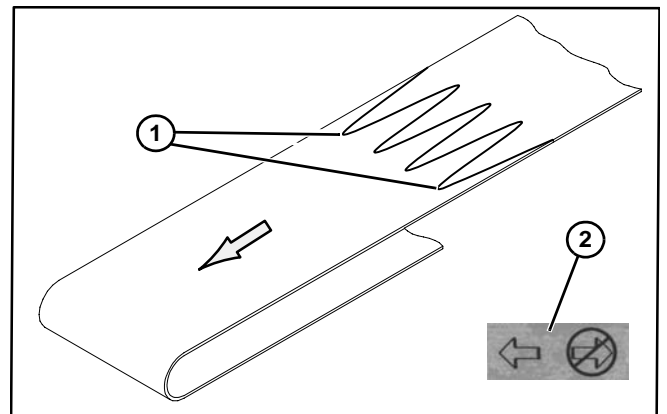

Figure 45
1. Orient belt so splice leading fingers (**Figure 45, item 1**) point in the direction of belt travel as identified by the conveyor directional label (**Figure 45, item 2**).
2. Orient belt so splice leading fingers (**Figure 45, item 1**) point in the direction of belt travel as identified by the conveyor directional label (**Figure 45, item 2**).